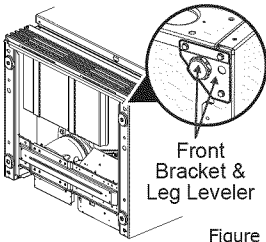
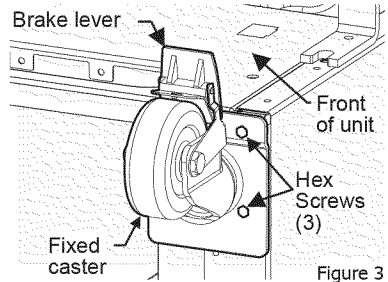

Figure 1
Figure 3
4. Remove and discard the 2 front brackets with leg leveler using a 5/16" socket wrench. See Figure 1.
Locate and align fixed caster (with brake lever facing front of unit - see Figure 3) over the same mounting holes from bracket in Figure 1 using 6 hex screws (3 for each caster). Secure the screws snug using a 3/8" open end wrench. Repeat this procedure for opposite corner. **DO NOT OVERTIGHTEN.**